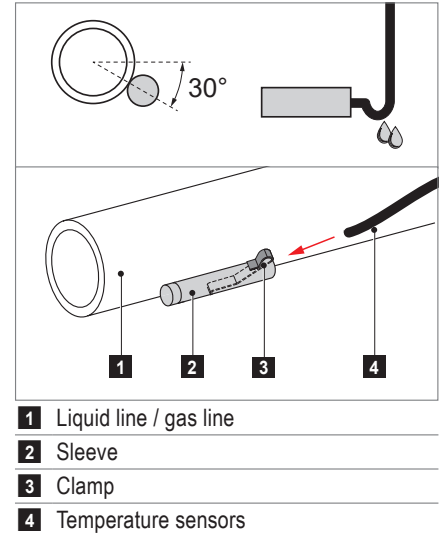

Fig. 37: Installation of the temperature sensors
- on the lower side of the pipe, as shown in Fig. 37